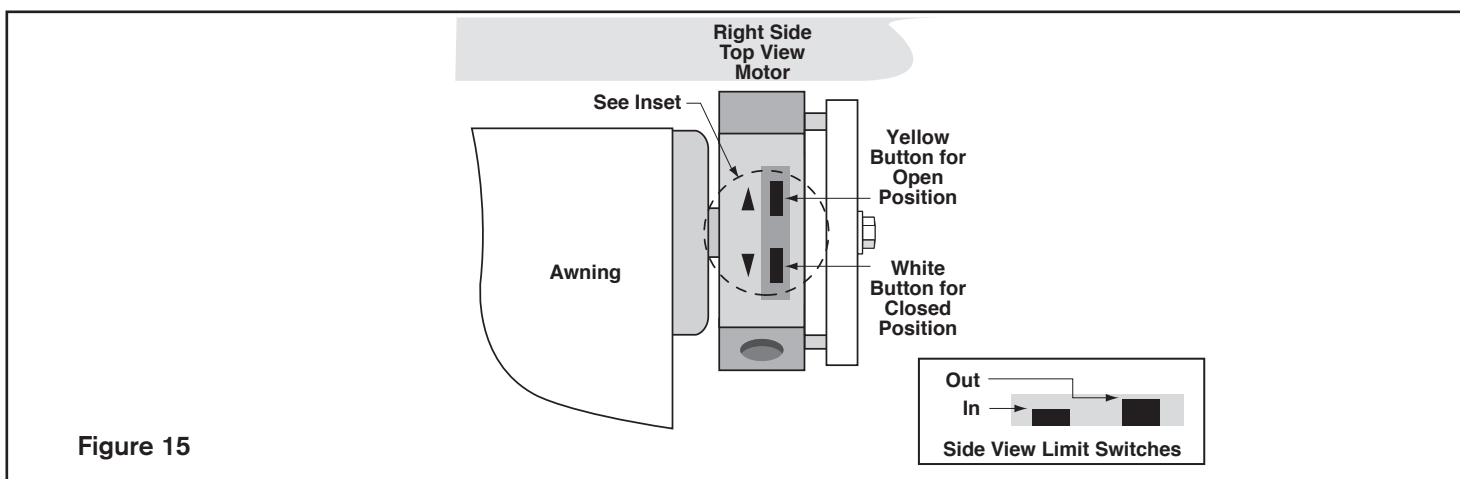

Figure 15
3. From a stepladder locate the limit push buttons on the motor. These push buttons will be on the top of the motor housing under a black plastic protective cap. See Figure 15.
5. Clear the Factory Settings by separately pressing both buttons (white and yellow) until they are both 'IN' or at their lowest point inside the recessed area of the motor housing – see figure 15. You should practice this a few times to understand this process.